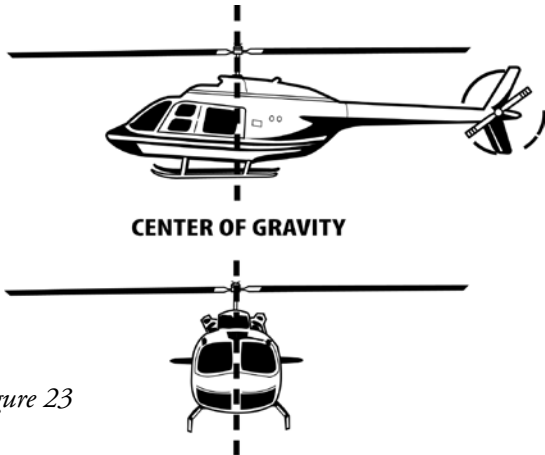

Figure 23
Center of Gravity (CG) is the point where the helicopter is in balance and most of the weight is concentrated. Draw an imaginary line through the center of the rotor mast, from the top of the mast to the bottom of the helicopter. This would be the center of gravity (Fig. 23). Ideally, the helicopter should be in perfect balance. The fuselage will remain horizontal in hovering flight, with no cyclic pitch control required. Center of gravity is located directly under the rotor; the helicopter hangs horizontal.